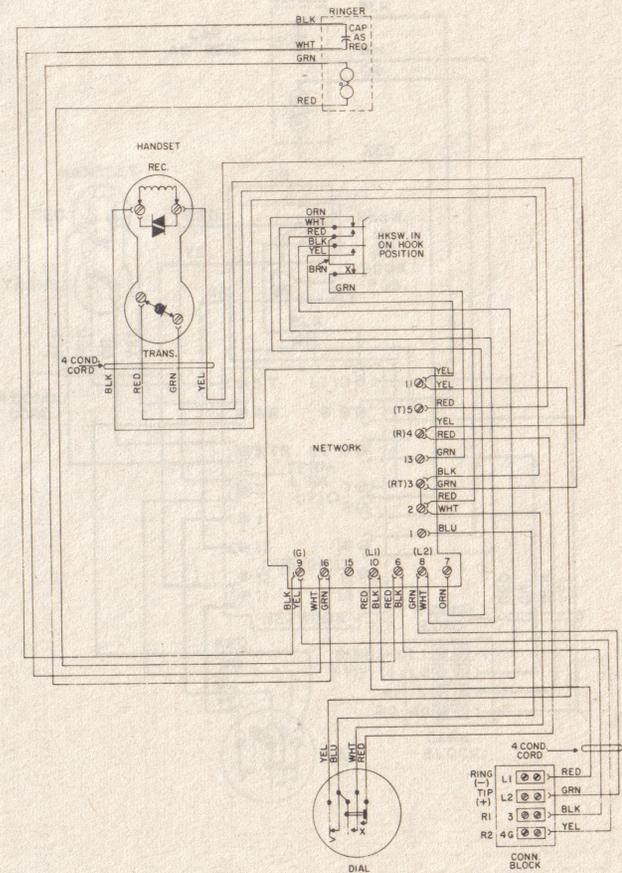

Figure 6. Attendant's Set Conversion, NB-Series Type 80 Telephone Instrument With Printed-Circuit Board Network.
2.10 The wiring diagram of a Type 80 telephone set with self-compensating network components mounted on a printed circuit board is shown, as modified in accordance with the above procedure, in Figure 5 (for NC-series instruments) or Figure 6 (for NB-series). The wiring diagram of a Type 80 set similarly modified, but with self-compensating network components mounted in a shallow styrene shell and potted with a jelly-like compound, is shown in Figure 7.